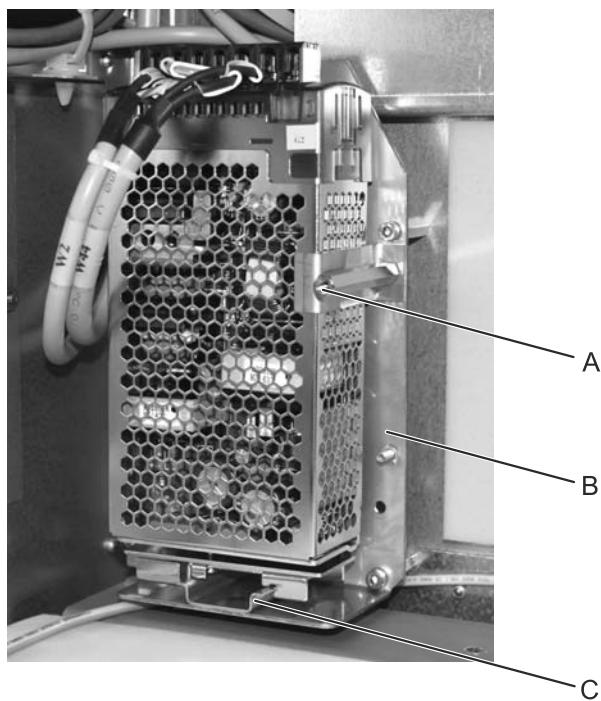

Figure 92: Removing the 24 V power supply
3. Use the 7 mm socket wrench to unscrew the 24 V power supply mounting screw (see Figure 92, A).
4. Carefully slide the 24 V power supply along the C-rail (see Figure 92, C) and off of the mounting bracket (B).